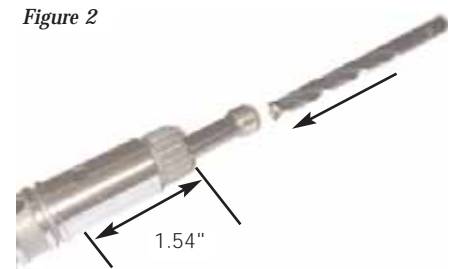

Figure 2
3. Reinstall the inner tube by pressing in place using a  $1\frac{3}{64}$ " (.297" diameter) transfer punch or blunted drill bit. Take care to fully seat the inner tube in the pump shaft. The installed height should be approximately 1.54" from the end of the pump shaft (Figure 2).